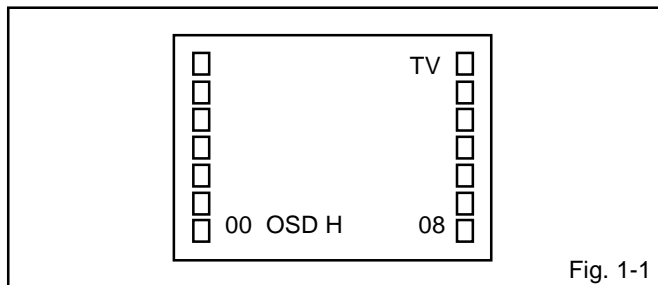

Fig. 1-1
2. Press the VOL. DOWN button on the set and the Channel button (9) on the remote control for more than 2 seconds to appear the adjustment mode on the screen as shown in Fig. 1-1.
5. Activate the adjustment mode display of **Fig. 1-1** and press the channel button (**02**) on the remote control to select "CUT OFF".
4. Activate the adjustment mode display of **Fig. 1-1** and press the channel button (**11**) on the remote control to select "R.BIAS".
3. Activate the adjustment mode display of **Fig. 1-1** and press the channel button (**03**) on the remote control to select "H.POSI".
3. Activate the adjustment mode display of **Fig. 1-1** and press the channel button (**29**) on the remote control to select "H. SIZE".
3. Activate the adjustment mode display of **Fig. 1-1** and press the channel button (**07**) on the remote control to select "V.POSI".
3. Activate the adjustment mode display of **Fig. 1-1** and press the channel button (**06**) on the remote control to select "V.SIZE".
3. Activate the adjustment mode display of **Fig. 1-1** and press the channel button (**08**) on the remote control to select "V.LIN".
3. Activate the adjustment mode display of **Fig. 1-1** and press the channel button (**31**) on the remote control to select "TRAPEZIUM".